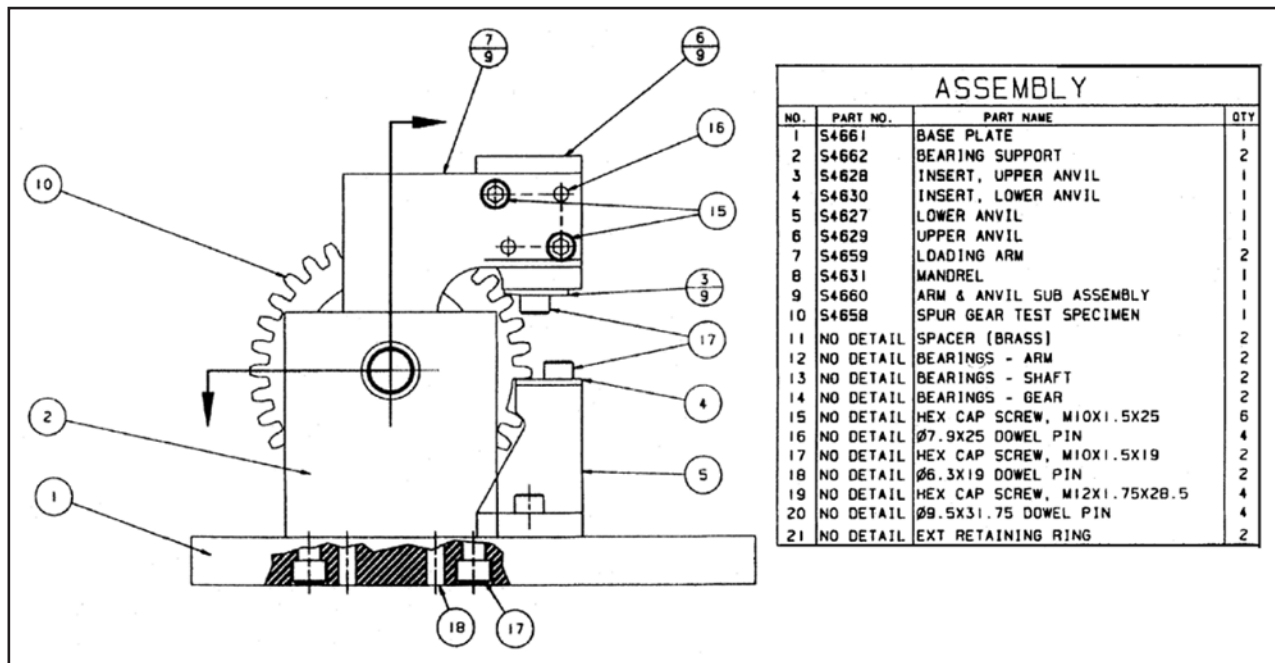

Figure 2 Loading Schematic for STBF Test [6].
Some variations in STBF fixture design exist, however the tooth loading method shown in Figure 2 generally applies regardless of the particular implementation. The test gear is mounted on a spindle in a test fixture and the gear teeth
under test are held between two independent anvils (Figure 2, items 3 and 4). The entire fixture is placed in a universal fatigue test frame and the anvils are subjected to cyclical loading until a bending failure occurs or a run out limit is reached. Several teeth on each gear can be tested to provide multiple data points from each test gear. This type of fixture is well documented in literature (Refs. 1–5) and established test standards (Ref. 6). Some variants of this method can also be found in literature, such as application of three-point loading (Ref. 7) or testing of asymmetric gears (Ref. 8), however all of the methods discussed thus far load the test tooth in one direction only.